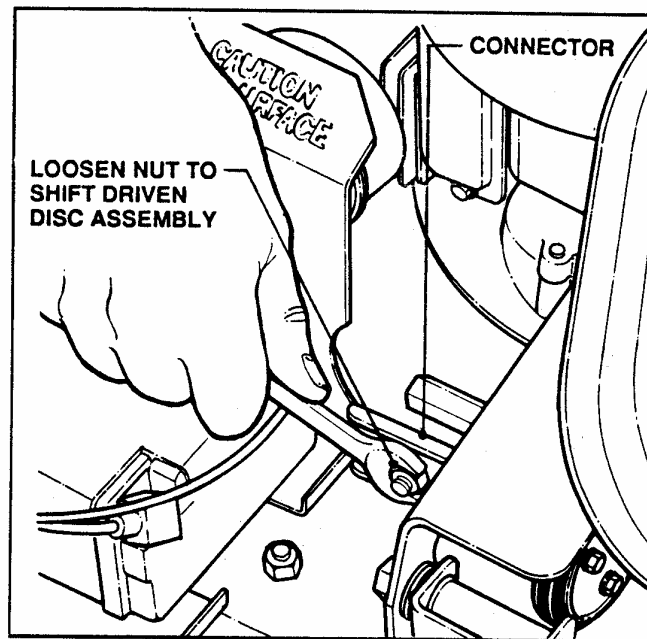

FIGURE 6
**STEP 10:** If adjustment is needed loosen nut on connector, and shift driven disc assembly until desired clearance is achieved as shown in Figure 6. (Connector is slotted to allow disc assembly to slide back and forth). Retighten connector nut. Test mower after adjusting.